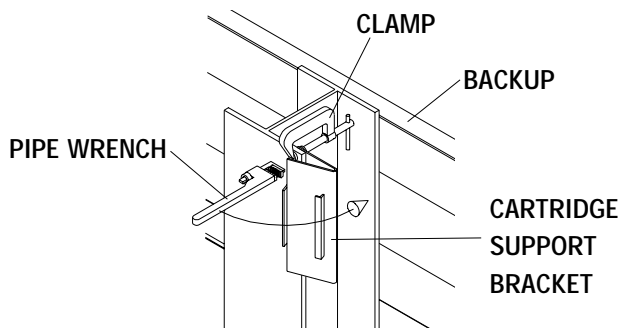

Figure 51
- B. Clamp cartridge support bracket to backup and begin bending using pipe wrench as shown in figure 51.